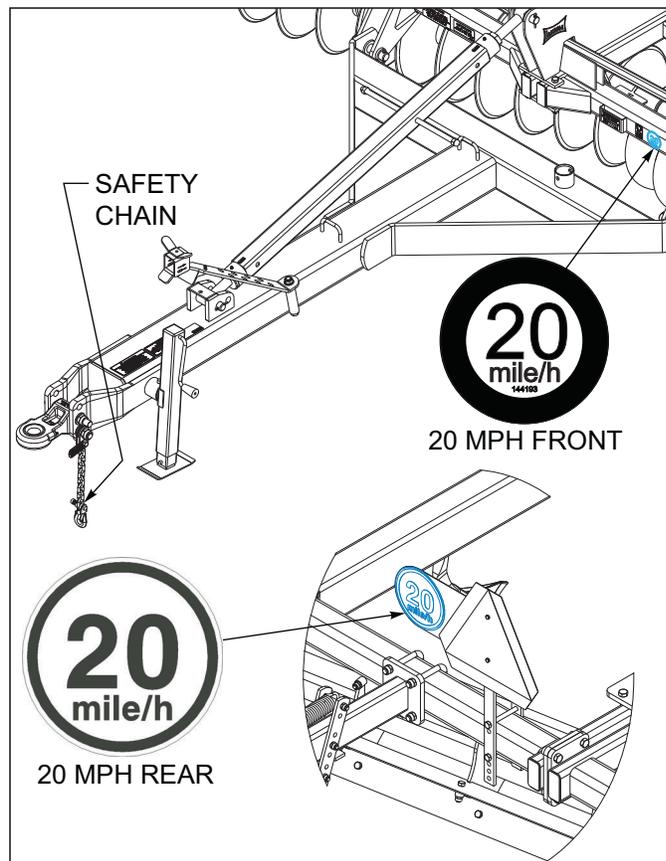

Figure 4-15: Hitch, Speed Identification Symbol, and Safety Chain
2. The 877 should be transported only by tractor required for field operation. The implement weight should not exceed more than 1.5 times the tractor weight. Maximum transport speed for the 877 is 20 mph for the implement and is designated on the speed identification symbol located on the front and rear of the implement *See Figures 4-15*.
- b. Attach the safety chain to the tractor drawbar **See Figure 4-15** Provide only enough slack in the chain for turning. Do not use an intermediate chain support as the attaching point for the chain on the tractor. Do not pull the implement by the safety chain.